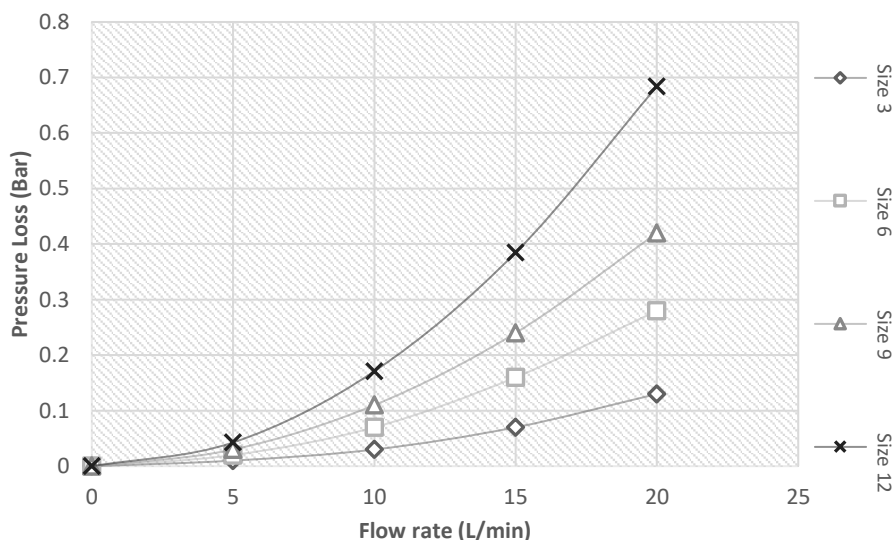
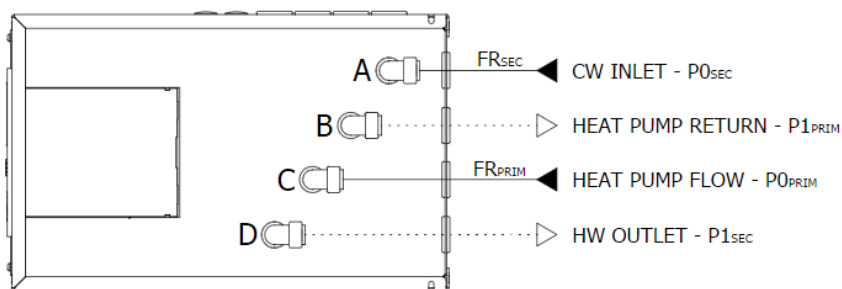

Figure 6.1: **UniQ HW +iLTHP** Heat Battery Secondary circuit pressure loss characteristics graph
Figure 6.3: Pressure loss at inlet & outlet of the Heat Battery
The primary circuit of the heat battery is connected to the heat pump flow and return as shown schematically in (Figure 6.3). The primary circuit design flow rate will depend upon the thermal rating of the heat pump and the design temperature difference. For a typical system, the primary flow rates are given in (Table 9), Primary flow rate in the heat battery charging circuit should be set to give around 7°C temperature difference to minimise flow rates.
The secondary circuit of the heat battery is connected to dwelling hot water circuit as shown schematically in (Figure 6.3). The pressure loss values can be read in (Figure 6.1).
Note: The mains cold water inlet connects to port A; Hot water outlet connects to port D. Meanwhile the LTHP flow pipe connects to Port C and the LTHP return pipe connects to Port B (Figure 6.3).
- Mains cold water supply should be connected to Heat Battery connection 'A'. The hot water outlet should be connected to 'D'. Heat Pump Flow should be connected to Heat Battery connection 'C' and Heat Pump Return should be connected to Heat Battery connection 'B'. (see Figures 6.3, 12.1 and 13.1).